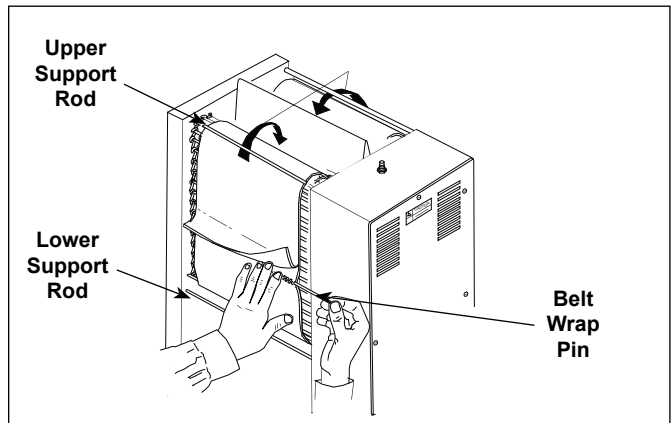

Figure 6. Installing Belt Wrap
2. Press and hold both **TEMP UP** and **TEMP SCALE** buttons for more than 1 second until the display flashes the set point temperature, then release (Figure 6).
3. Open both Conveyor Covers and pull the Belt Wrap Pin out of the zipper (Figure 6).
6. Install the new Belt Wrap(s) around the Conveyor Belt Chains inside the conveyor support rods with the zipper flap exposed and hanging down (Figures 6 & 7).